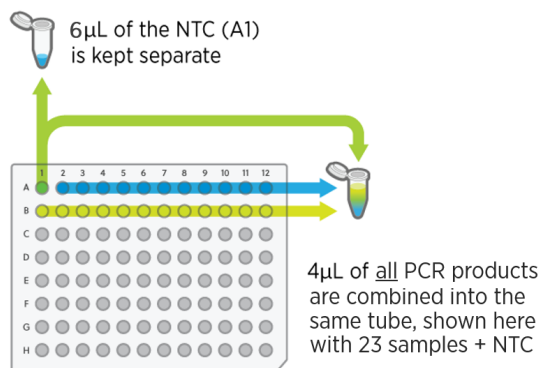

Figure 7: Pooling PCR reactions
2. Pool PCR products as follows (see Figure 7).